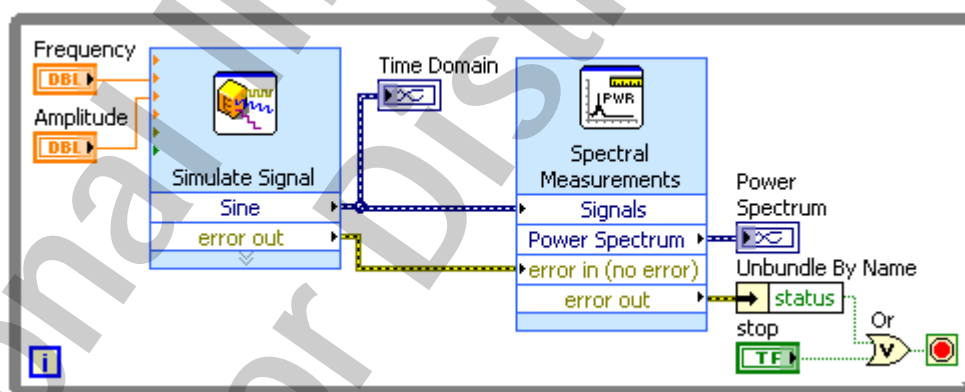

Figure A-1. Power Spectrum Express VI Block Diagram
1. Open a blank VI and build the block diagram shown in Figure A-1 using the following items: